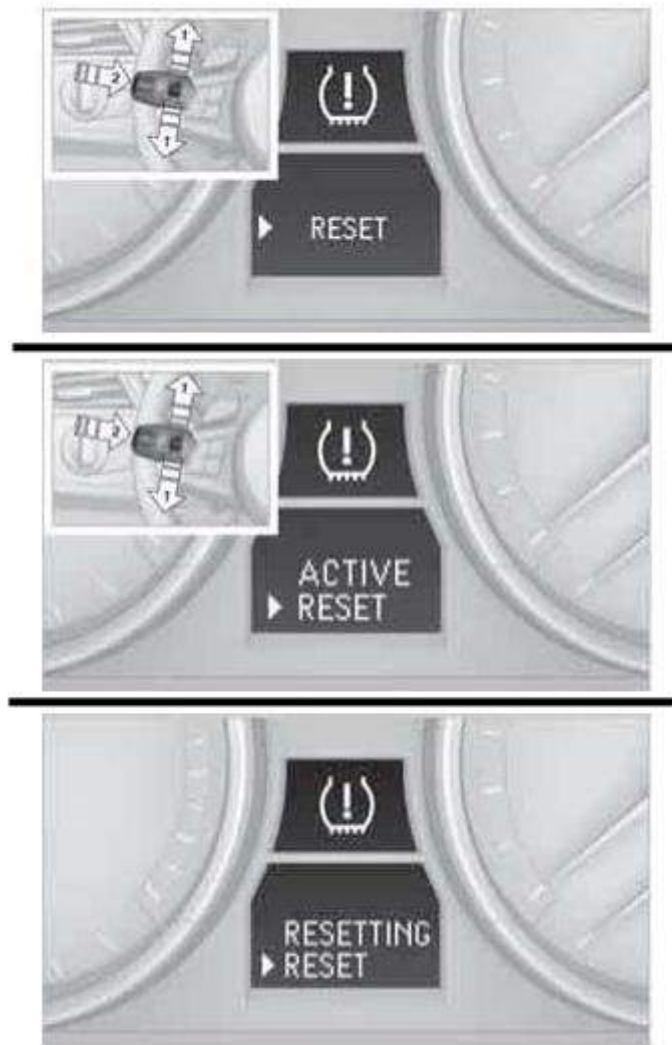

Fig. 29: Tire Pressure Monitor Status Display
2. Lightly push button 1 on the turn indicator. See Fig. 29.
3. Lever the turn indicator up or down repeatedly until the tire monitor symbol appears in the display, accompanied by the word "RESET". See Fig. 29.
4. Press button 2 to confirm your choice of the Tire Pressure Monitor. In the display, "ACTIVE" will appear above "RESET". See Fig. 29.
5. Press button 2 for approx. 5 seconds. In the display, "RESETTING" will now appear above "RESET". See Fig. 29.